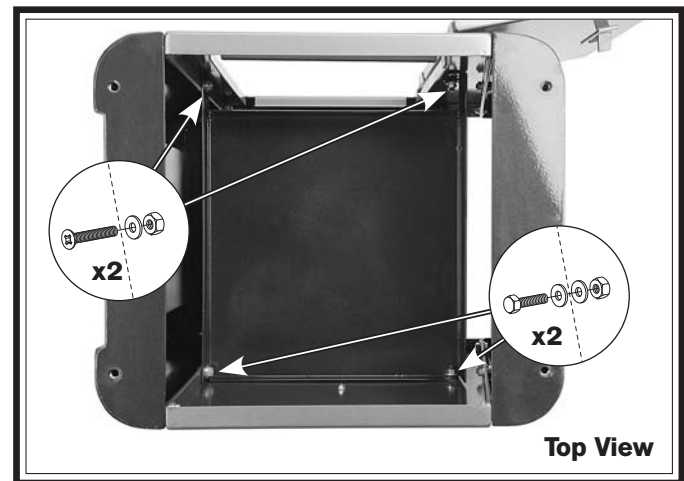

Figure 11. Shelf installation.
4. Install the shelf in the stand assembly as shown in **Figure 11** with (2) M8-1.25 x 15 hex bolts, (2) M8-1.25 x 15 flat head screws, (4) M8-1.25 hex nuts, and (6) 8mm flat washers.